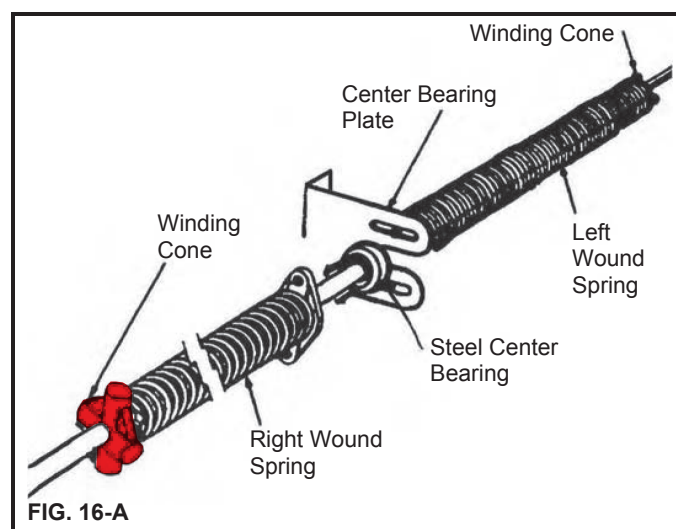

FIG. 16-A
- From left to right, inside the garage facing out, parts should be: left side spring (right wound) with stationary cones facing the center of the door, steel center bearing, center bearing plate, right side spring (left wound) with stationary cones facing the center of the door (Fig. 16-A).